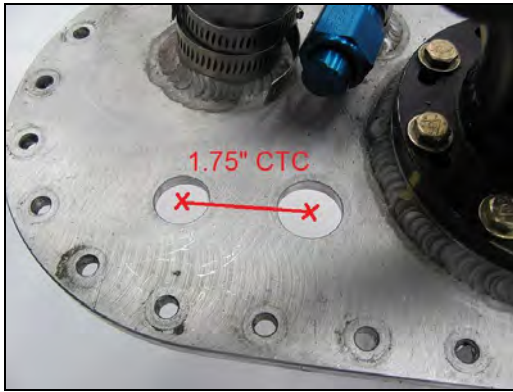

Figure 8
8. Place fill plate on cell and measure where the feed and return hose should be placed. Drill a 57/64" hole for an AT983210ERL feed hose bulkhead and a 49/64" hole for an AT983208ERL return hose bulkhead (bulkheads included in 16-200 hose assembly), or similar (Figure 8 & 9). Make sure there is at least 1.75" center to center on the holes drilled.